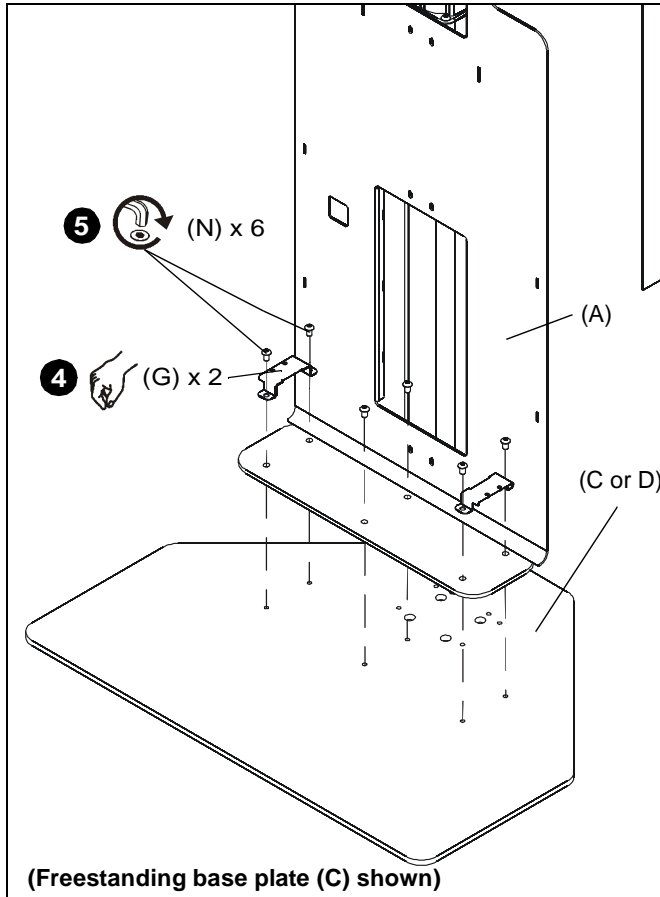

Figure 1
4. Position Codec cover base plates (G) above outside holes on the column base. (See Figure 1)
5. Install six 5/16-18 x 1/2" button head cap screws (N) to fasten column assembly (A) to base plate (C or D) and Codec cover base plates (G). (See Figure 1)